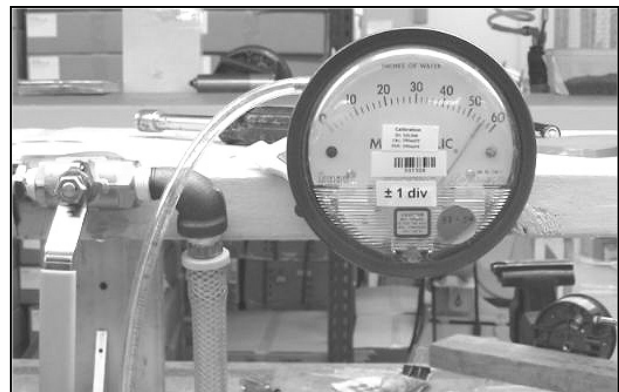

Figure 36. Magnehelic Gauge Connection to Hose Barb
3. Apply compressed air, wait for air to exit the hose barb in the test port, and then connect the Magnehelic gauge (Figure 36) to the hose barb using the vacuum hose or vinyl tubing. This prevents the gauge from reading maximum pressure due to the large velocity of compressed air entering the primary chamber.
16. Install the tamper proof cap on the idle mixture screw adjustment port using a large pin punch, so that no further adjustments can be made (Figure 36).